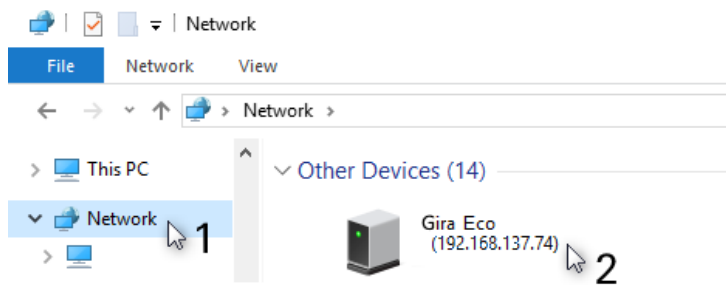

Figure 16: Accessing the device website via the network environment
- Alternatively, select the device in the network environment category "Other devices" (figure 16, pos. 1): Double click on the device icon (figure 16, pos. 2).